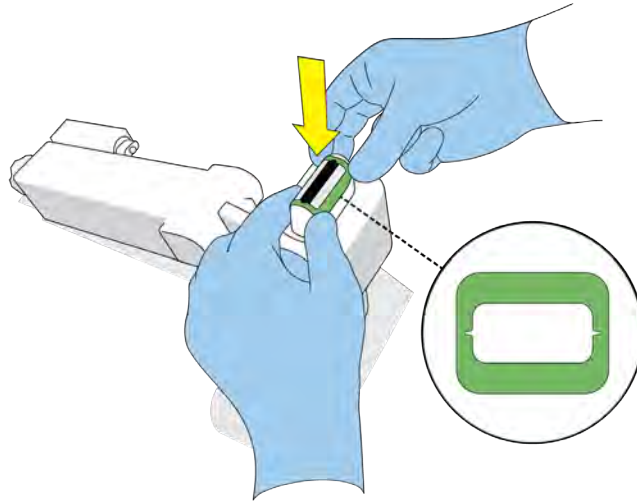

Figure 12. Apply Ultrasound Gel Pad Window to Ultrasound Gel Pad.
5. Apply Ultrasound Gel Pad Window to Ultrasound Gel Pad, attaching securely via Ultrasound Gel Pad adhesive surface prior to draping (Figure 12).